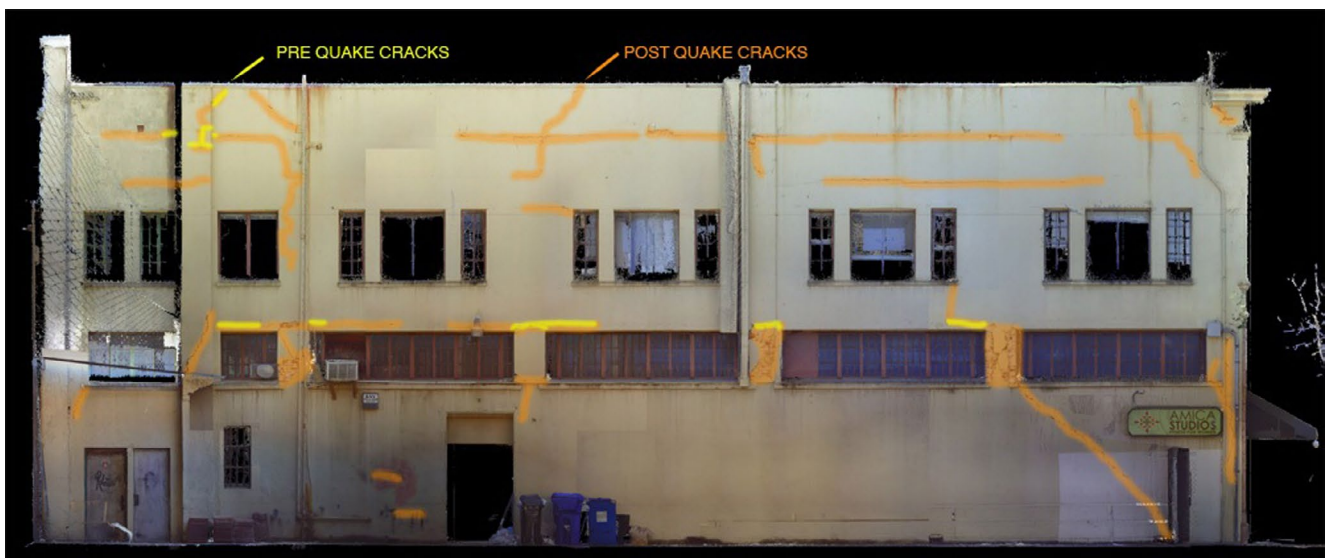

Figure 3: Post-quake west wall showing pre- (yellow) and post-quake (orange) cracking.
- Building cracks pre- and post-quake are observed and can be measured (see **Figure 3**).